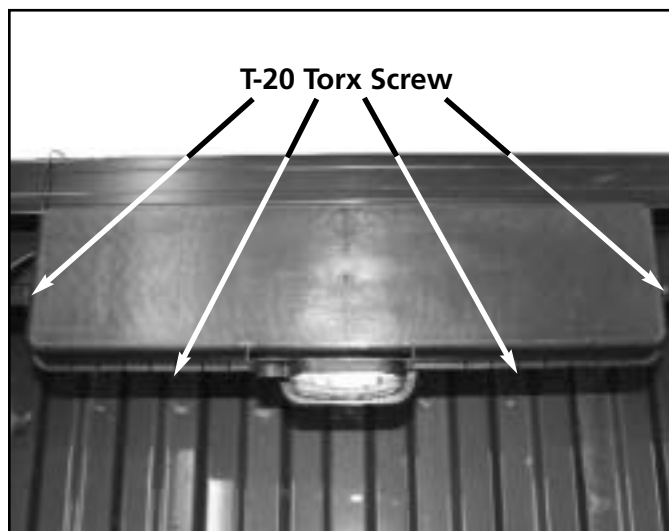

Figure S-21
3. Remove the four (4) T-20 Torx screws from the motor cover and set the motor cover aside. See figure S-21.